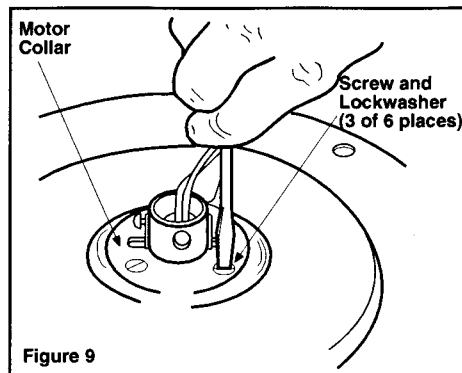

Figure 9
3. Remove three of the six screws and lock-washers (every other one) securing the motor collar to the top of the fan motor housing (Figure 9).